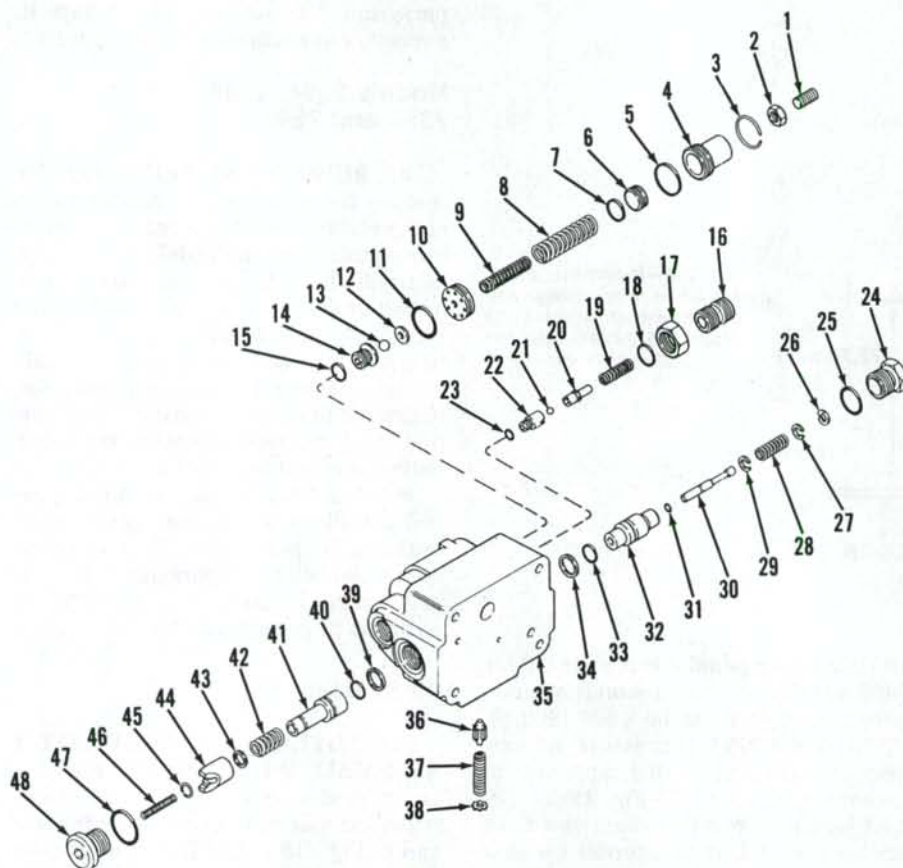
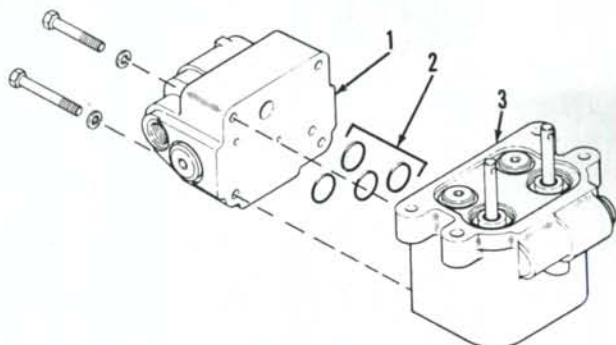
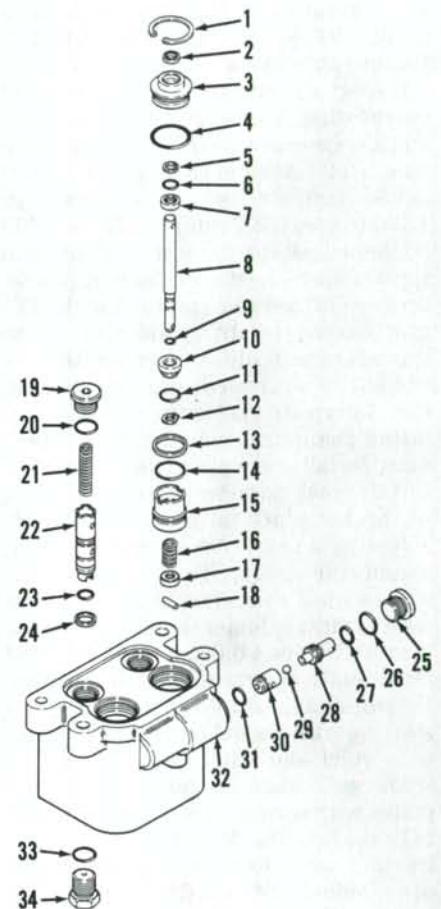

Fig. 210—Exploded view of power brake valve cover (regulator) and associated parts for Model 2090, 2290, 2390 and 2590 tractors.
Fig. 212—View of Model 2090, 2290, 2390 and 2590 power brake regulator and valve body separated showing "O" rings (2) between halves.
Fig. 213—Exploded view of valve body section and related parts of power brake assembly used on Model 2090, 2290, 2390 and 2590 tractors.
or right brake pedal down with 110 lbs. (489 N) of force. Pressure on flowmeter pressure gage must be 1600-1800 psi (11032-12411 kPa). If pressure is incorrect, adjustment is accomplished by loosening locknut (17—Fig. 210 or 211) and turning screw (16) clockwise to increase pressure or counterclockwise to decrease pressure. When pressure is correct, tighten locknut.
189. OVERHAUL REGULATOR ASSEMBLY. Refer to Fig. 210 or 211 for an exploded view of brake valve regulator assembly used on all models and to Fig. 213 or 214 for master brake valve unit. Right and left hand units are identical but used parts should not be intermixed while unit is disassembled. On Models 2090, 2290, 2390 and 2590, with power brake valve removed from tractor, unbolt and remove regulator body (35—Fig. 210). On all models, remove equalizer plug (24—Fig. 210 or 211), "O" ring (25) and piston assembly (items 26 through 34). Remove snap ring (26) and withdraw internal pin assembly (items 27 through 31). Remove clips (27 and 29), spring (28) and "O" ring (31) from pin (30). Remove and discard "O" ring and seal (33 and 34).
"O" rings (2—Fig. 212). Refer to Fig. 213 for exploded view of valve body and remove plug (25) for differential lock check ball assembly, then remove check ball assembly (items 28, 29 and 30). Remove and discard "O" rings (26, 27 and 31).
Renew all "O" rings and seals upon reassembly and renew any parts which are worn, scored or otherwise damaged. Parts (3 and 30) are not serviced separately. Lubricate "O" rings with petroleum jelly upon reassembly. Install seal (2) with lip toward outside. Repeat procedure for right hand brake piston assembly. Install four new "O" rings (2—Fig. 212) between regulator and valve body and tighten regulator to body cap screws to 17-30 ft.-lbs. (23-41 N·m) torque.